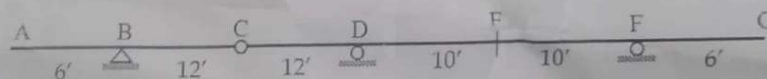

Figure-02
- b). Illustrate the influence lines with ordinate for the beam shown in Figure-02. [04]